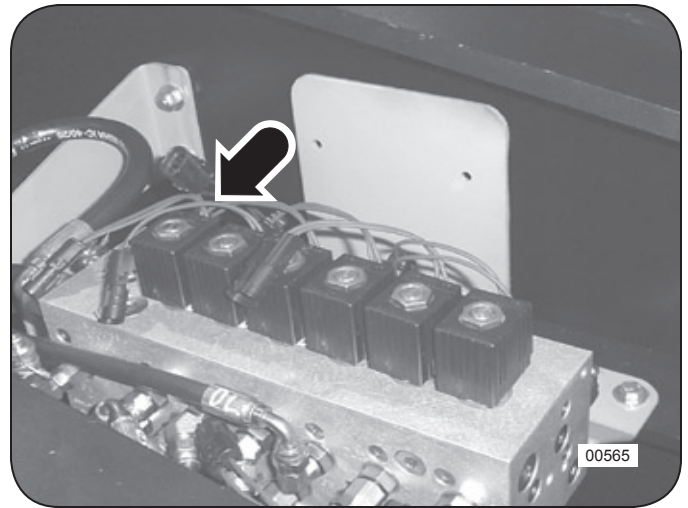

Figure 7: Lower Solenoid Manifold (TF 830 installation shown)
2. Locate and disconnect the parking brake solenoid coil harness at the lower solenoid manifold. See Figure 7. This will prevent the parking brake from releasing.